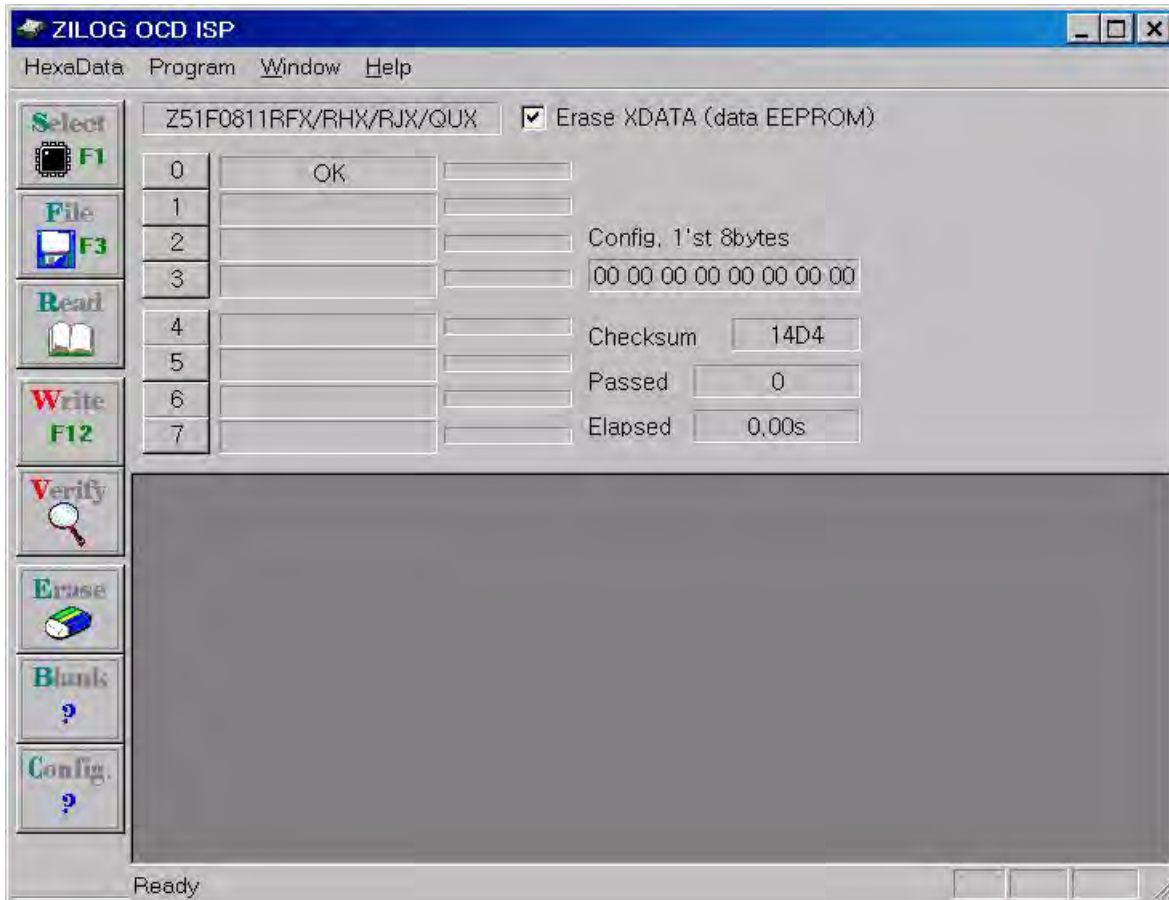

Figure 80. OCD ISP Dialog
3. The OCD\_ISP dialog box appears, as shown in Figure 80. After a hexadecimal file has been loaded, this dialog displays the name of the target device and a data check-sum value, as highlighted in the figure.